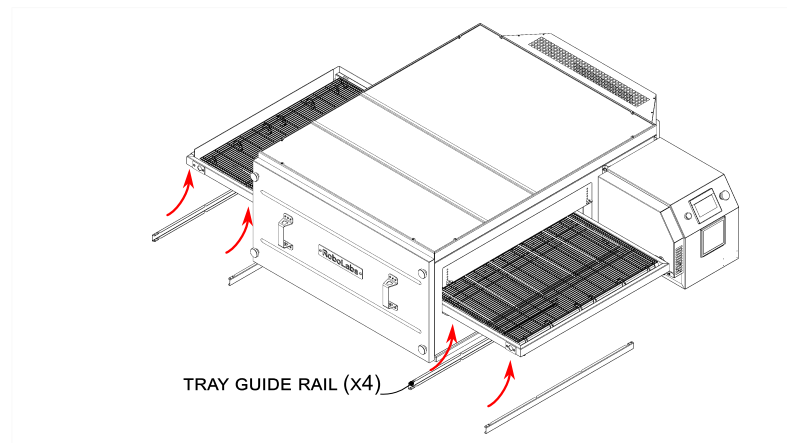

Figure 6
9. Fix **tray guide rails** under conveyor, see Fig. 6. Fasteners are fixed to the conveyor.